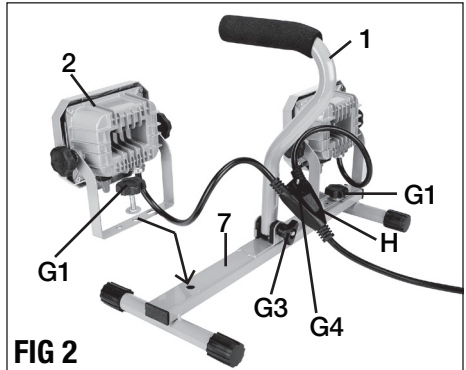

FIG 2
## ATTACHING WORK LIGHT HEADS TO STAND (FIG 2)
1. Place the stand (7) on a flat surface.
2. Rotate the carrying handle (1) straight up. Tighten the handle locking knob (G3) to secure it in place.
3. Use the locking knobs (G1), flat washers and spring washers to secure both work light heads to the sides of the stand as shown in FIG 2.
4. Hang the power cable splitter (H) on the hook (G4).